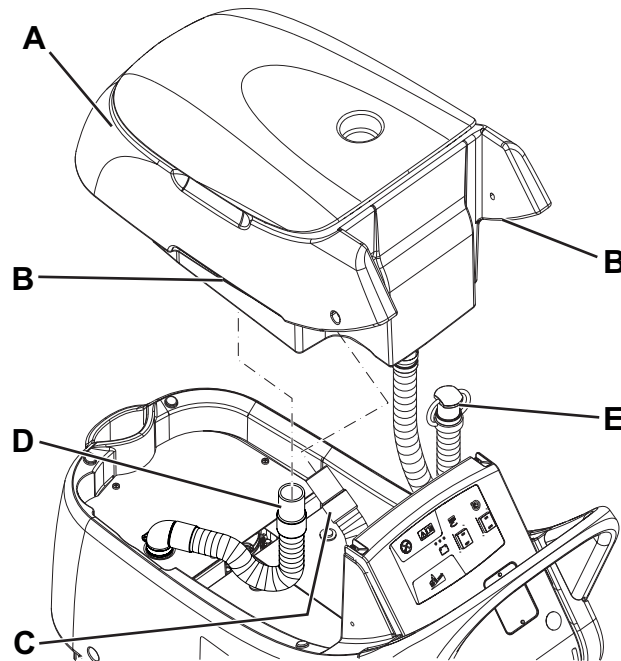

Figure 5
1. Empty the recovery tank (16) as shown in the relevant paragraph.
4. Remove the recovery water drain hose (11) from its holder.
5. Grasp the recovery tank (A, Fig. 5) in the area (B) and slightly raise it.
6. Disconnect the vacuum hose (C) from the tank.
7. Disconnect the hose (D) from the tank vacuum grid.
8. Remove the drain hose (E) through the slit, then remove the tank (A).